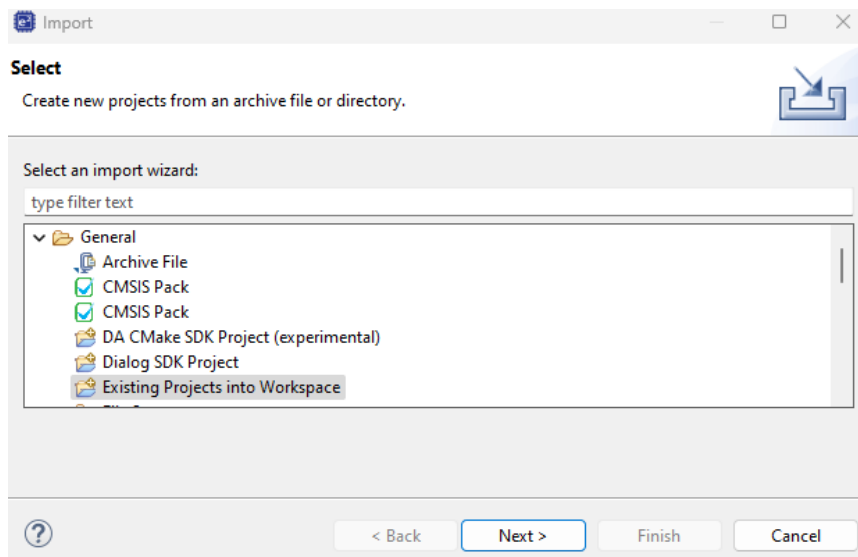

Figure 3. Import Existing Project
- Figure 3. Import Existing Project3
4. Since the SDK package already contains an existing project, select *General > Existing Project into Workspace* (see Figure 3). Click **Next**.